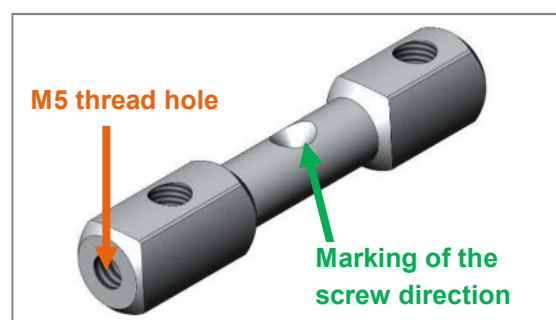

Figure 6: 6° Wheel plate inlet with thread hole and one-sided drop
3. Now reattach the M6 fixing screws (AF 4 mm) and tighten them to 11 Nm. Ensure that the washers are reinstalled on each screw. The inlets, which have a M5 thread hole on the bottom, can be positioned in the tube using a threaded rod. Where appropriate, the inlets are installed on a 6° bracket with thread holes. Each of them are marked with a one-sided drop (Fig. 6), which must face outward during installation. Ensure that the direction is correct.